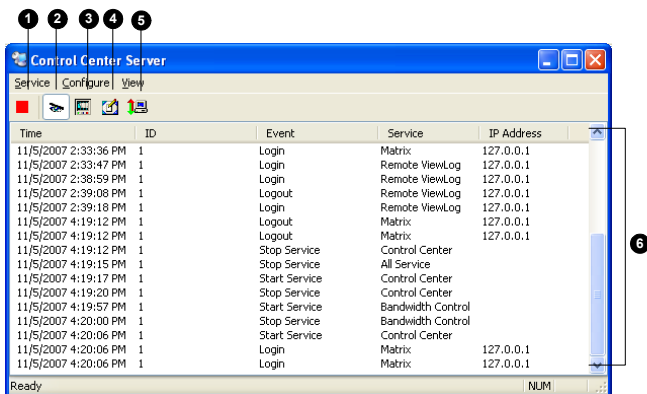

Figure 4-8
1. The client DVR must activate **Control Center Service** (No. 2, Figure 4-8) first.